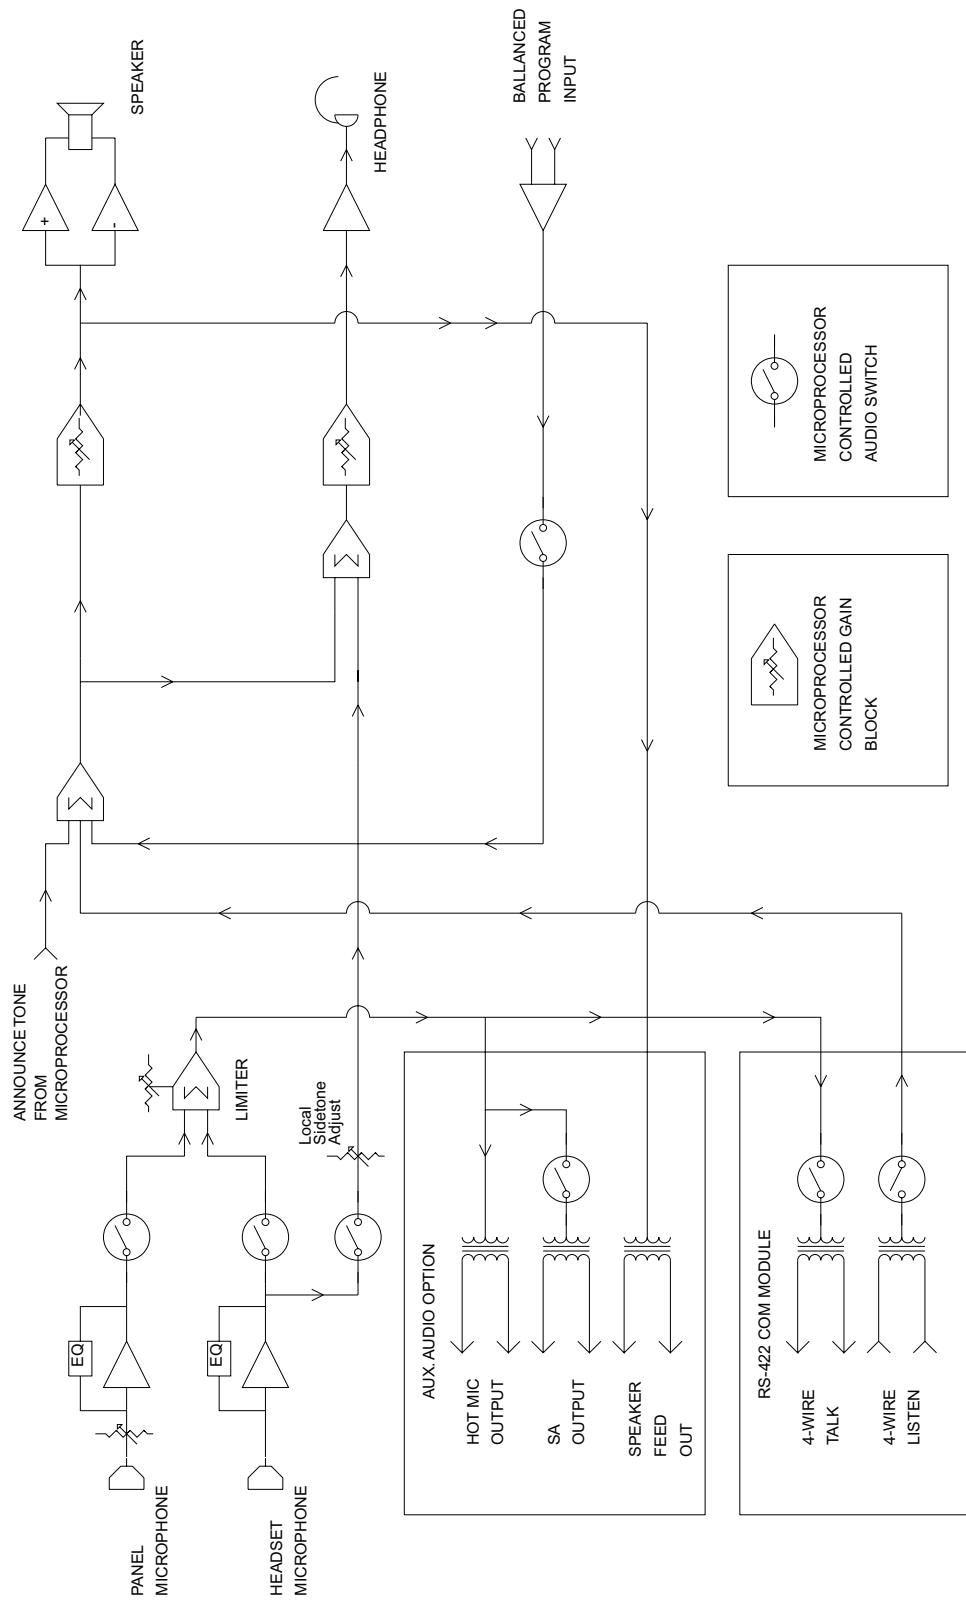

Figure 10:
2. Find the sidetone control (marked "P2 Sidetone") on the main PCB. See Figure 10.
2. Use a small screwdriver to adjust the control marked “P1” on the Main PCB. See Figure 10.